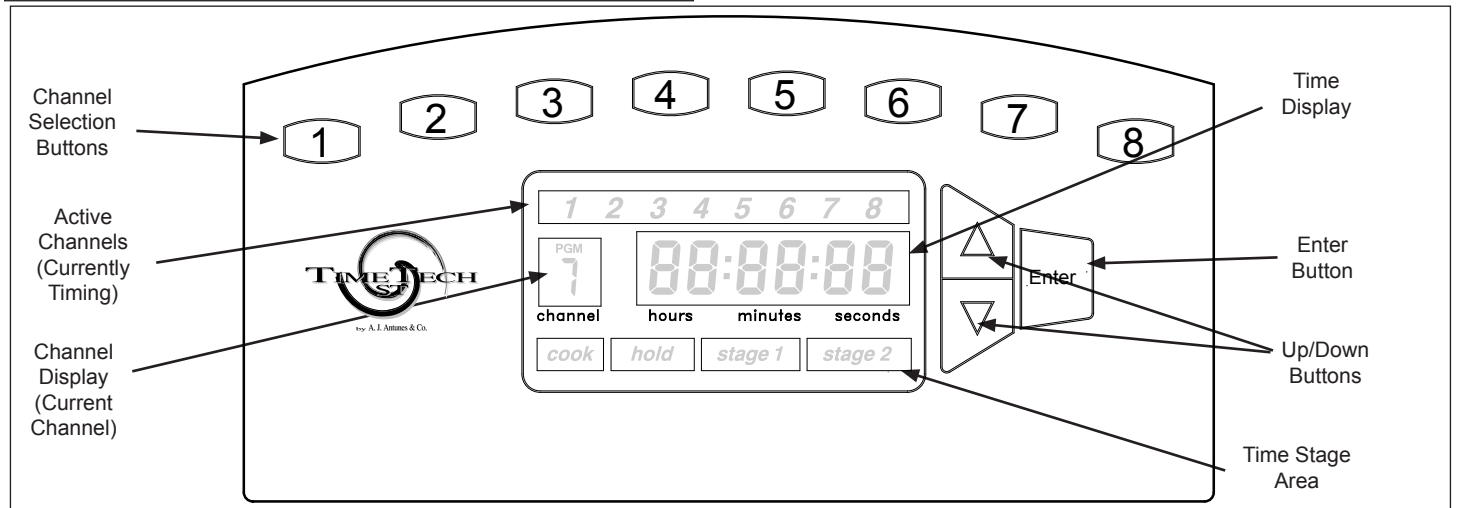

Figure 1. TimeTech Timer (8 Channel Timer Shown)
Press and hold the desired Channel Selection button (Figure 1) for 3 (three) seconds. The letters **PGM** appear above channel number in the Channel Display area to indicate that the Timer is in Program Mode.
4. At the end of a timing cycle, the unit sounds three beeps five times and then beeps two times every one second. Also, the channel number flashes in the Active Channels area (Figure 1) until the Channel Selection button for that channel is pressed. Then, the display will move to the next channel to finish.
This section describes the Timer display and the various functions available on the Timer. Refer to Figure 1 to identify the different locations of these features.